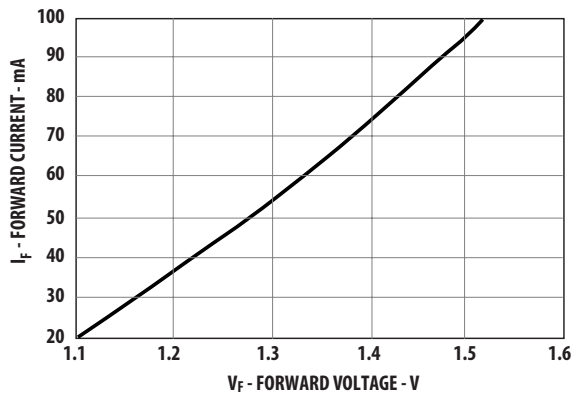

Figure 3. Typical forward voltage and current characteristics
| Forward Voltage | V_F | 1.1 | 1.4 | 1.7 | V | $I_F = 75$ mA | Fig. 3 |
- Optical rise and fall times are measured from 10% to 90% with 62.5/125 μm fiber. LED response time with recommended test circuit (Figure 3) at 25 MHz, 50% duty cycle.